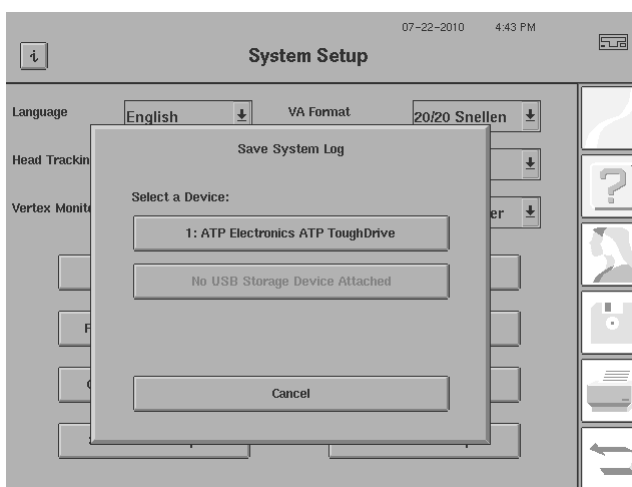

Figure 2.7 Save System Log Dialog
- 3 Press SAVE. A dialog appears prompting you to select a USB storage device (Figure 2.7).